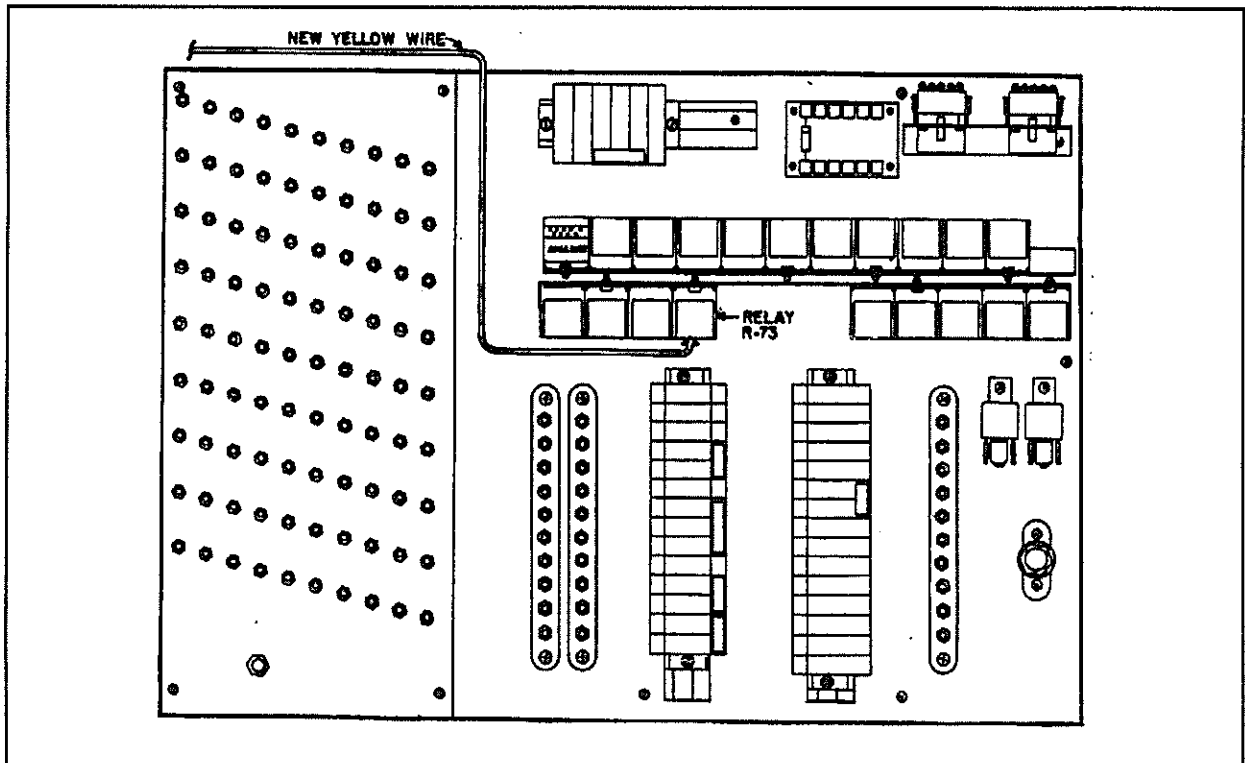

Fig. 5 - Front electric compt.
9. Insert wire in the front electric compartment through the grommet fixed in the left wall, then route it to relay R-73. Refer to figure 5.